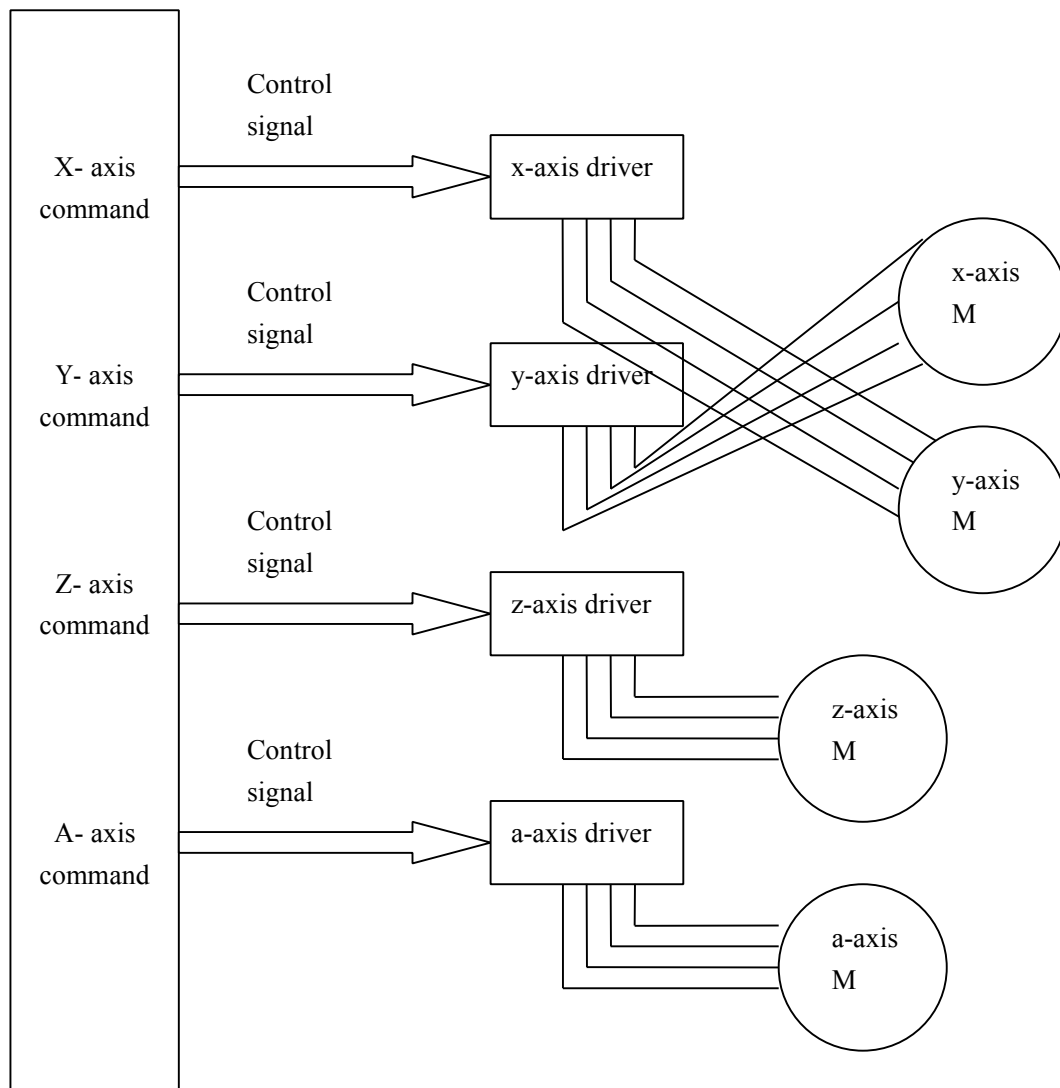

Figure 6-6
2.check step motor and wiring, For example, x, axis have some problem, you can do as <a href="#">Figure 6-6</a>	2. if stepper motor have having issues, replace it. Do not unplug stepper motor with machine on and computer on. This will cause 5 axis card to not work